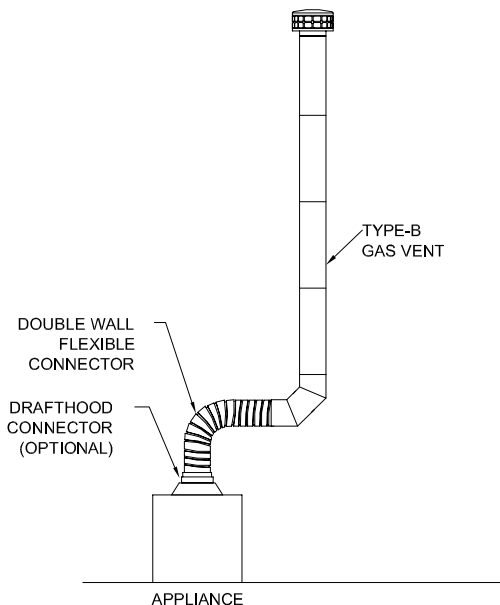

**FIG. 3**
- c. Inlet end of Type-B gas vent Tee or "Y" (See **FIG. 3**).